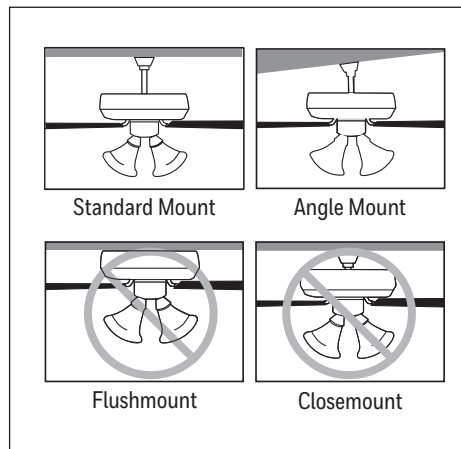

Figure 1.2
2. Choose one of the following mounting options (Figure 1.2):